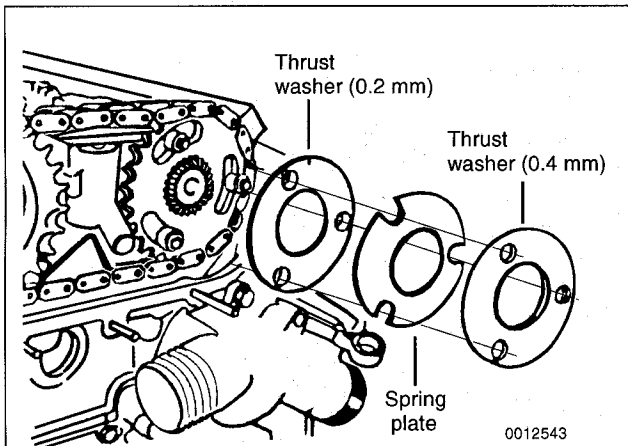

Fig. 45. VANOS spring plate and thrust washers on later engines.
12. Install thrust washers and spring plate (if applicable) to sprockets. See Fig. 45.